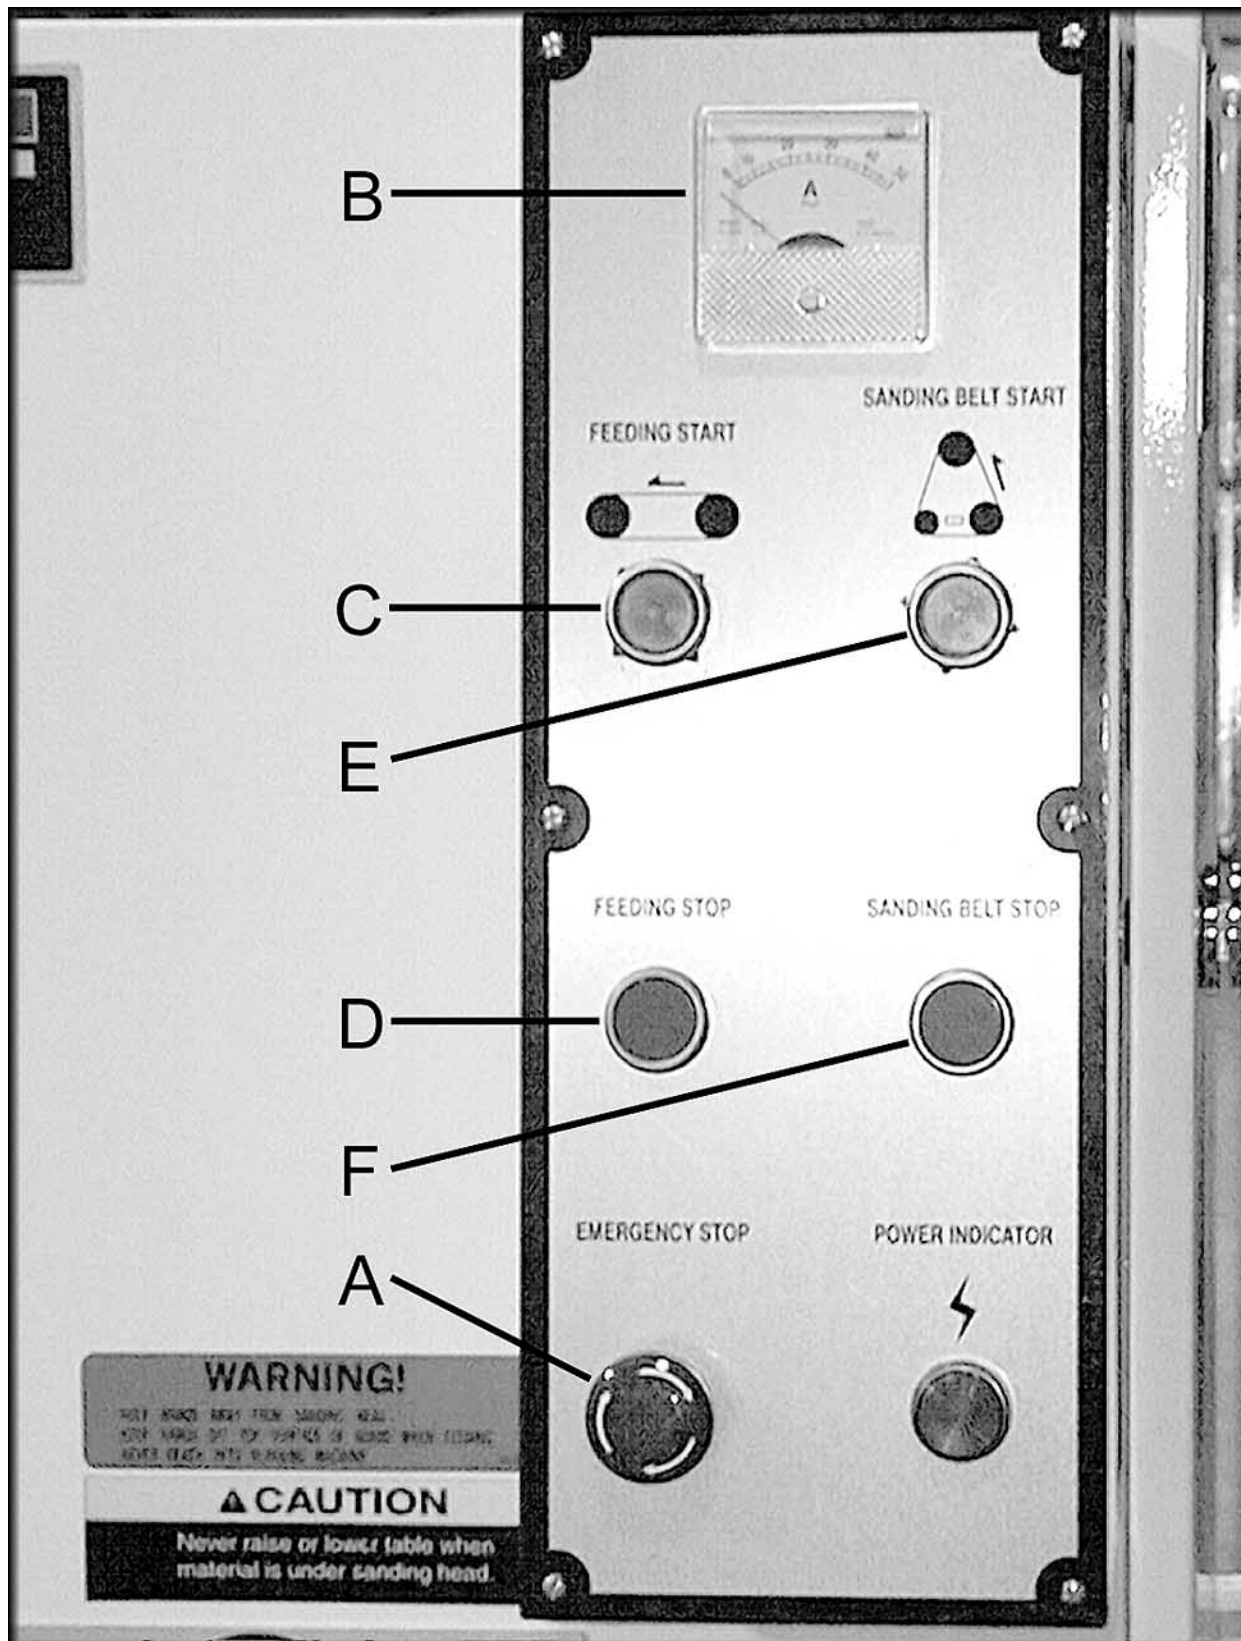

Figure 3. Control panel
Start – Stop Switches. The Start-Stop switches are located on the control panel above the infeed side of the conveyor (Refer to Figure 3). There are separate start switches for the conveyor belt (feed) (C) and the sanding belt (E). There are also separate stop switches for the conveyor (D) and the sanding belt (F). During normal operation, start the sanding belt first and